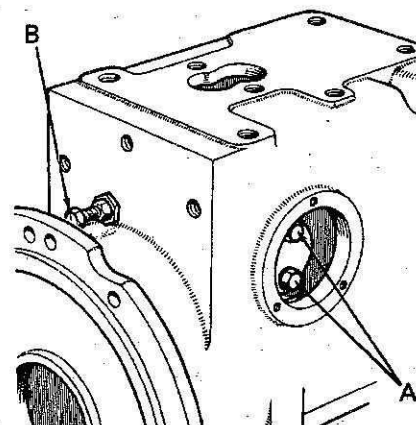

Fig. 197—To remove control valve assembly, unbolt pressure line at (A) and unscrew lubrication line retaining set screw (B) 9 turns.
brake linkage from lower end of hand brake lever. Unbolt and remove control lever housing from front of rear axle housing; it may be necessary to loosen or remove quadrant to remove all four housing bolts. With control lever housing removed, remove the two cap screws (A—Fig. 197) retaining pressure pipes to control valve housing. Loosen locknut while holding set screw (B), then back set screw out nine turns. Note: Do not turn set screw out more than 9 turns as lubrication pipe will be disengaged. Disconnect flexible cable from top link sensing unit, then remove sensing unit and place temporary cover over opening in PTO housing to prevent dirt from entering system. Disconnect
With rockshaft and bracket assembly removed, unbolt and remove control valve from right hand bracket. Valve housing may be a tight fit on the locating dowels. To reinstall control valve, reverse removal procedure. Note: If set screw (B—Fig. 197) does not turn fully back into same position (9 turns) as before, loosen the set screw and relocate lubrication pipe. Refer to paragraphs 242 through 249 for necessary readjustments and to paragraph 241 for bleeding the system after reassembly.